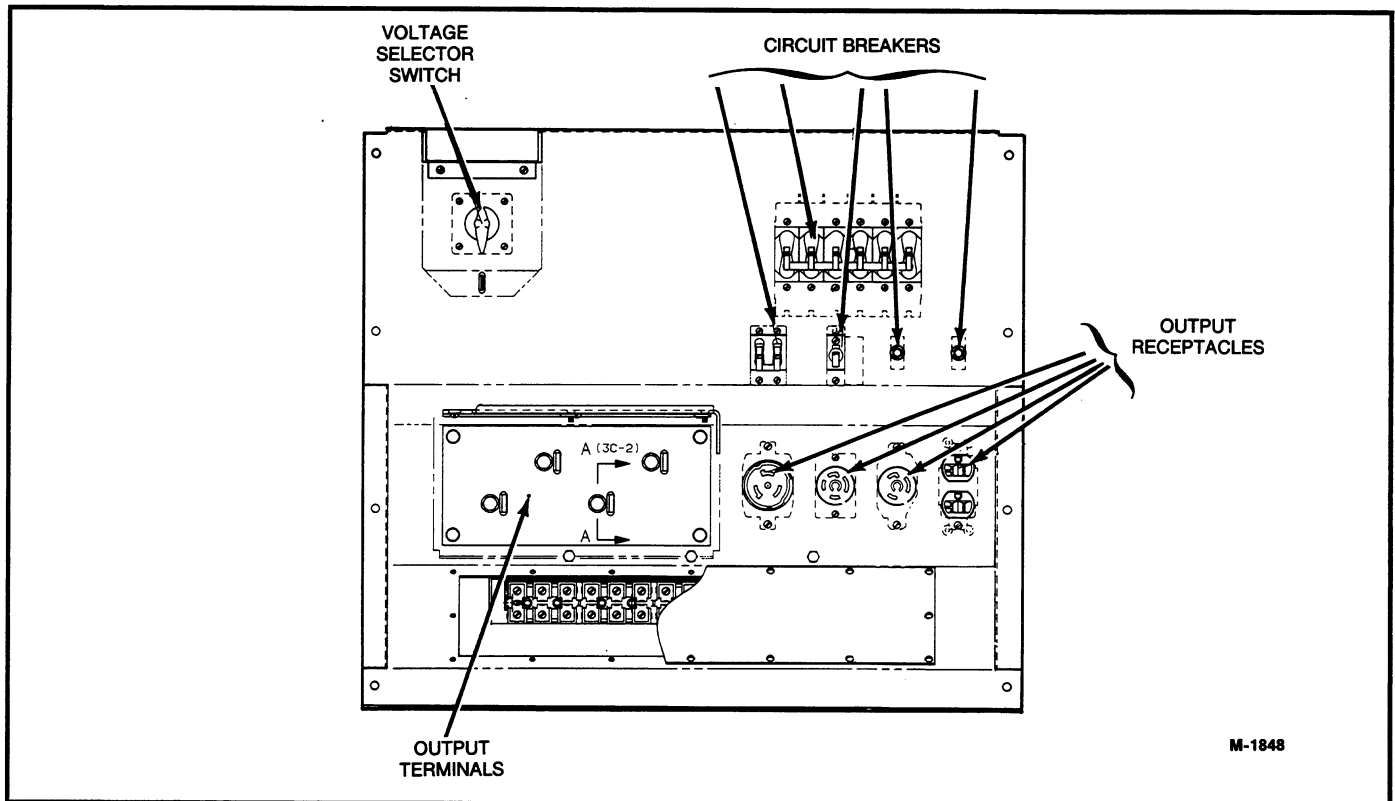
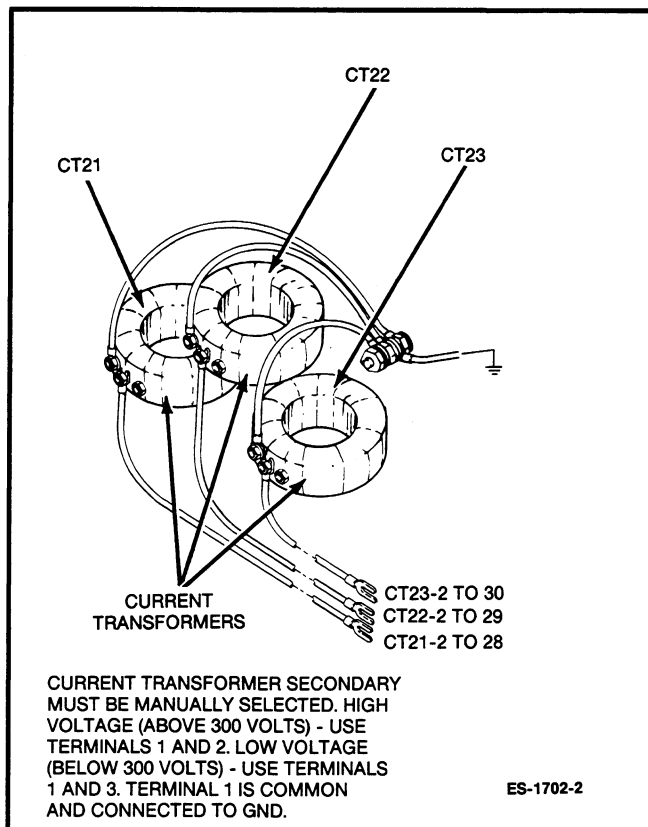

FIGURE 4-2. OPTIONAL REAR PANEL
**FIGURE 4-5. GENERATOR VOLTAGE CONNECTIONS WITH VOLTAGE RECONNECT SWITCH**
An optional rear panel provides a voltage reconnection switch, terminals for load connection, and output circuit breakers. These features are discussed separately below. Figure 4-2 illustrates this panel.
If the generator set incorporates the voltage reconnect switch, refer to Figure 4-5 for generator voltage reconnections.
2. Bolt the load wires to the appropriate generator lead wires in the output box according to Figure 4-4 or Figure 4-5 for required voltage.
Using 3/8" bolts with the correct nuts and washers, bolt the load connection wires directly to the L0, L1, L2 and L3 terminals (see Figure 4-2).
The voltage reconnection switch allows alternate voltages to be selected from the load panel. The generator output leads are reconfigured by turning the switch, rather than by manually reconnecting the leads. Figure 4-2 illustrates the location of the voltage reconnection switch. Figure 4-5 illustrates the output connections of generator sets using this switch.
An optional back panel assembly provides a voltage reconnection switch, a circuit breaker panel, and load output terminals and receptacles. (The voltage reconnection switch and output terminals are discussed earlier in this section.) Figure 4-2 illustrates this panel.